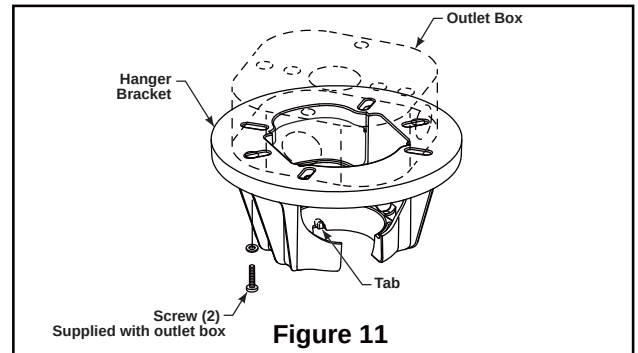

Figure 11
- ☐ 1. Securely attach the hanger bracket to the outlet box using the outlet box screws and washers supplied with the outlet box. (Figure 11)